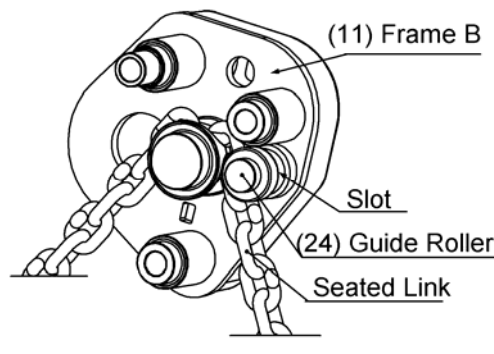

Figure 5-7 Guide Roller Attachment to Frame A
- 5) Align a seated link with the slot of (24) Guide Roller and insert the roller into the hole of (11) Frame B as shown in Figure 5-7.